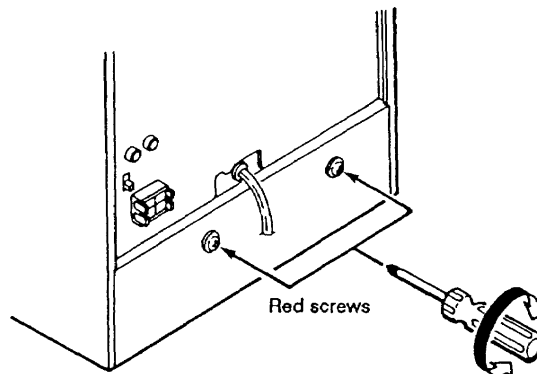

Fig. 2
6. Be sure to remove two screws (located on the rear of the unit) as shown in Fig. 2. (The removed screws should be retained.)
5. Secure two screws as shown in Fig. 2.